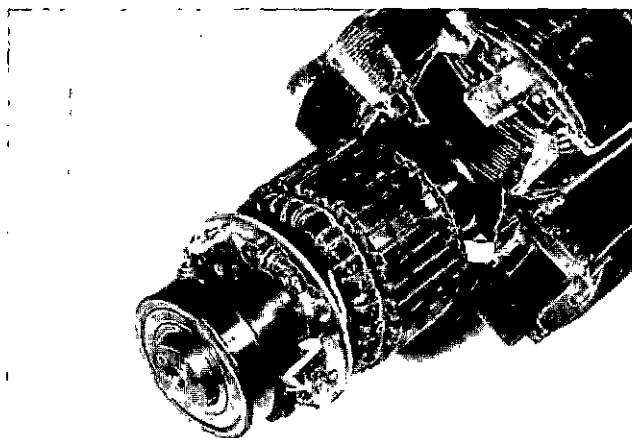

FIGURE 6-23
2. If the bearing is to be replaced, remove with a suitable puller. (Figure 6-23.)